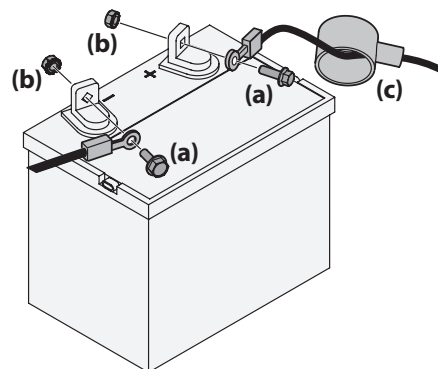

Figure 2-8
1. Remove the plastic cover, if present, from the positive battery terminal and attach the red cable to the positive battery terminal (+) with the bolt (a) and sems nut (b). See Figure 2-8.